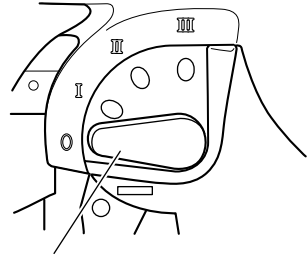

Fig. 11
- (1) This Jig Saw employs orbital operation which moves the blade back and forth, as well as up and down. Set the change knob shown in Fig. 11 to "0" to eliminate the orbital operation (the blade moves only up and down). The orbital operation can be selected in 4 steps from "0" to "III".
- (2) For the hard material, such as a steel plate, etc., decrease the orbital operation. For the soft material, such as lumber, plastic, etc., increase the orbital operation to increase work efficiency. To cut the material accurately, decrease the orbital operation.